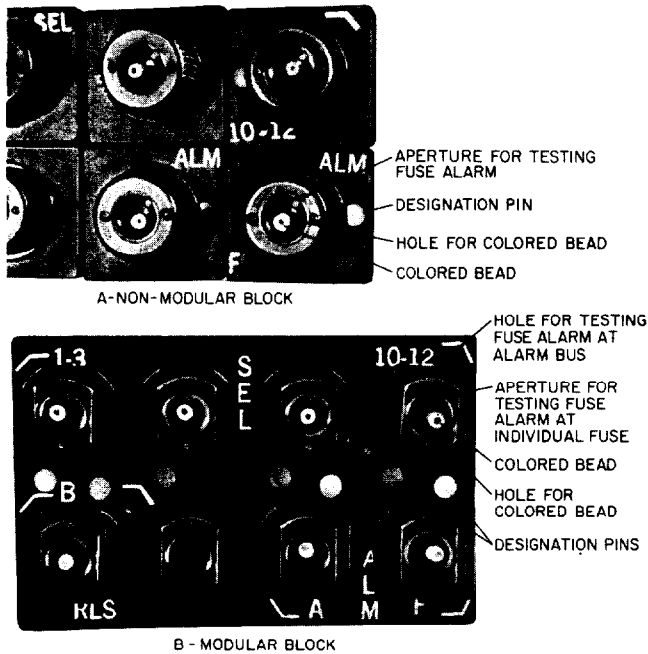

Fig. 1—Access Points For Testing 70-Type Fuses (Later Design Caps)
- (d) To add Fig. 1.
1.08 The later design fuse caps for 70-type fuses contain an aperture or slot adjacent to the hole for the colored bead providing access to the alarm test point with a 411C tool. The P-344900 fuse cap assembly is for use on non-modular fuse blocks (18A, 19A, and 21A) and the P-11F667 fuse cap assembly is for use on modular fuse blocks (22- through 27-type); see Fig. 1. This style cap should be used when testing fuse alarms. Due to the hazards involved, the former procedure of testing fuse alarms by inserting a 411C tool beside the colored bead on older caps without the slot or aperture has been deleted from this section.
Note: To test the alarm circuit of 70-type fuses mounted in an individual fuse block, or if it is desired to test the alarm contact of each individual fuse where the 70-type fuses are mounted in a modular fuse block (22-through 27-type block), insert the tip of the 411C tool (attached to the W1AF cord) into the aperture of the fuse block cap and touch the exposed alarm test point (Fig. 1). To test the alarm bus circuit of 70-type fuses mounted in a modular fuse block (such as the 22- through 27-type block), insert the tip of the 411C tool (attached to the W1AF cord) into the aperture provided in the fuse block cover (Fig. 1) for the alarm to be tested, and touch the alarm bar.